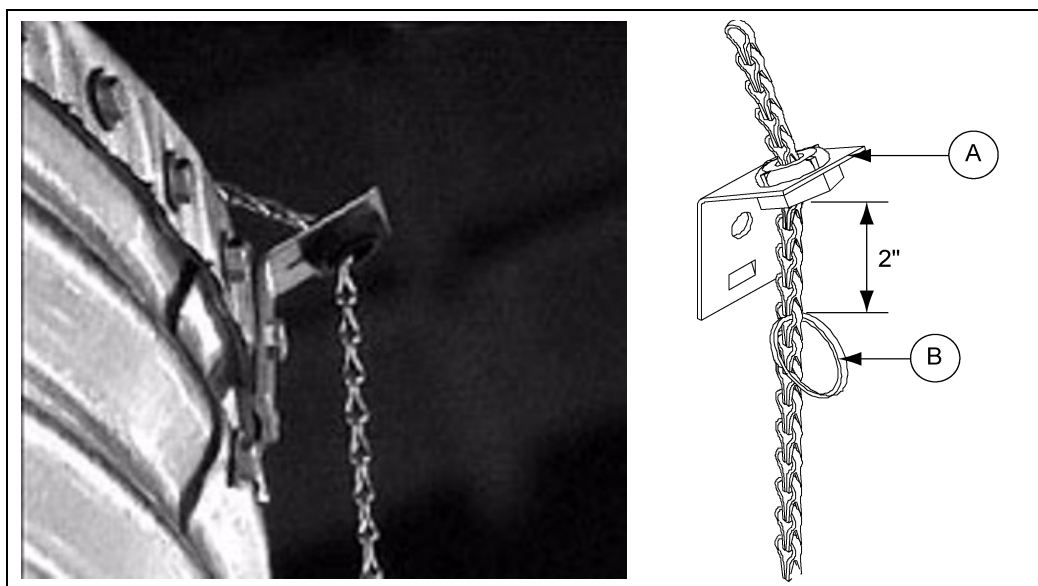
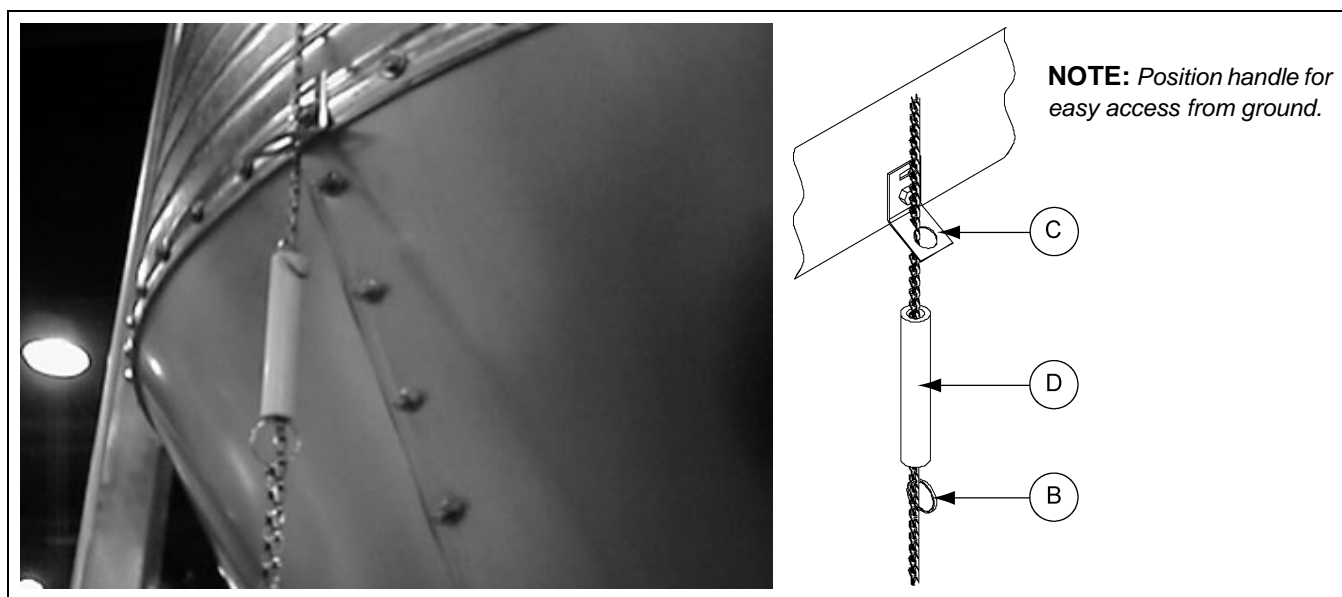

Figure 11I
Figure 11J
- Thread the existing chain through the hole on the end of the lever arm and fasten it to the provided key ring. (See Figure 11B on Page 55.) Ensure that the ground control chain is freely looped through the roof eave bracket and chain holder. After removing the slack in the chain while the lid is fully closed and in latched position, re-position the key ring 2" below the roof eave bracket. (See Figure 11I.) Re-adjust the existing handle and key ring so the handle is positioned for easy access from ground. (See Figure 11J.) Check to make sure that the key rings allow the cap to fully close, but will not allow the chain enough slack on top of the cap to become wrapped around the lever arm in a high wind condition.